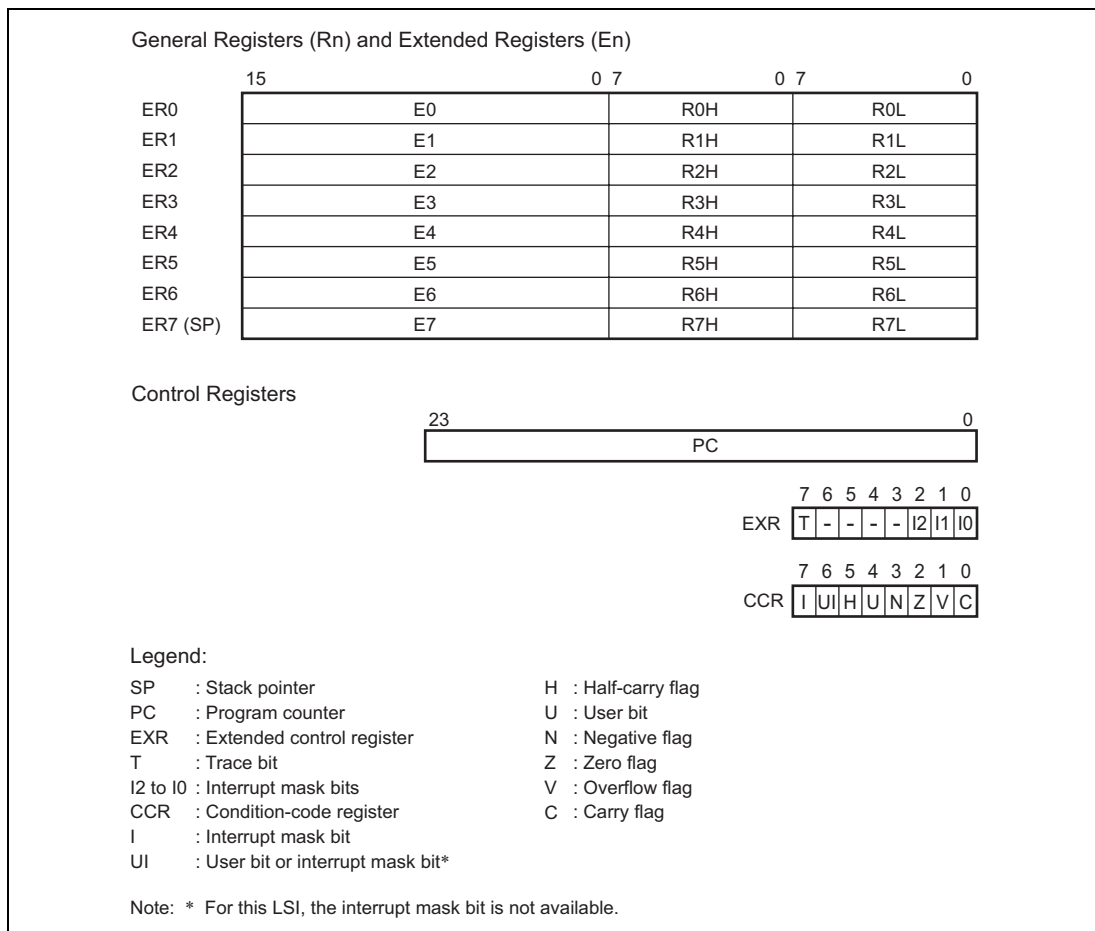

Figure 2.4 CPU Internal Registers
The H8S/2000 CPU has the internal registers shown in figure 2.4. There are two types of registers: general registers and control registers. Control registers are a 24-bit program counter (PC), an 8-bit extended control register (EXR), and an 8-bit condition code register (CCR).